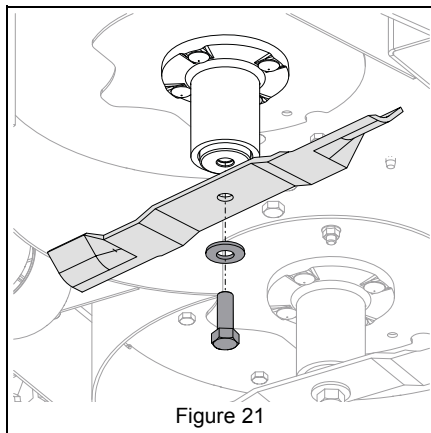

Figure 21
- Remove hardware securing blades to spindles and remove blades. Retain all hardware for reinstallation. See Figure 21.
See Figure 21.